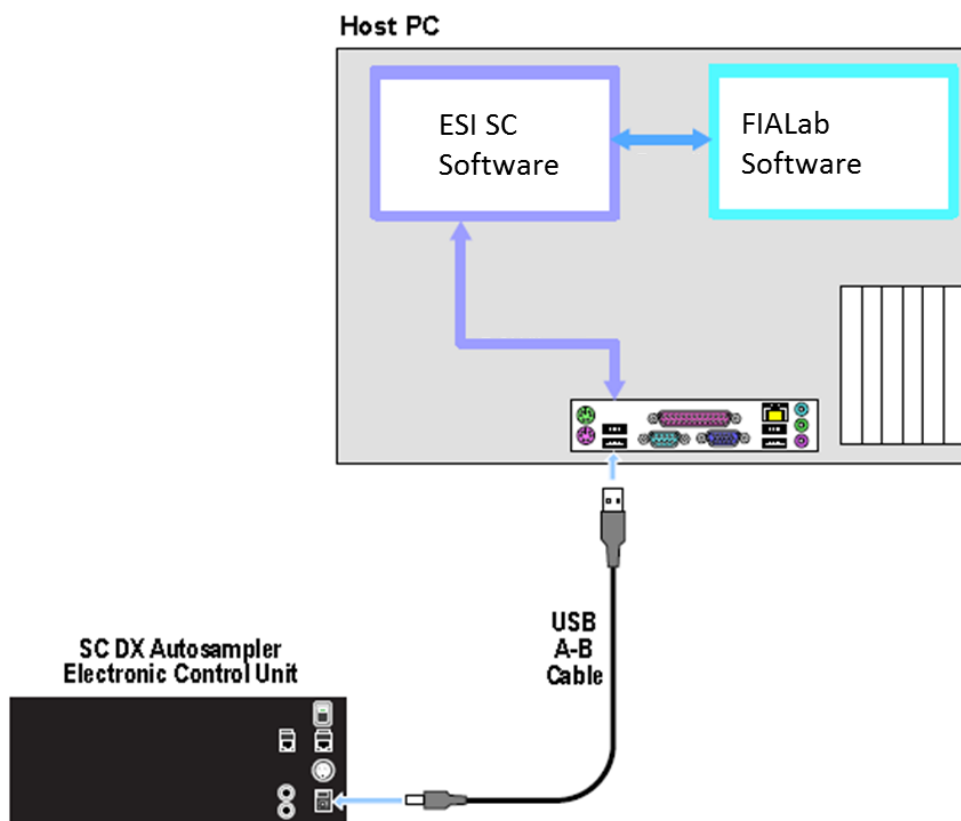

Figure 12: Connection options for FIALab and ESI SC with SC autosampler.
- 2) One USB port will be used along with a virtual port created in the ESI SC software. See Figure 12.
The *Instrument COM Port* should typically be set to something other than COM1 or COM2 and this device number must not be visible in the top window section, "Physical COM Ports". In the example from Figure 12, COM3 is chosen. Next, click **SAVE>>OK>>OK**.